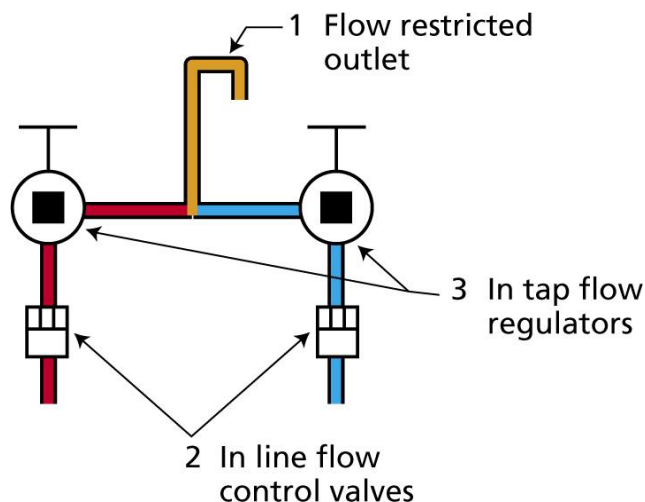

Figure 3: In line flow control valves, in-tap flow regulators or restricted outlets
- A tap set incorporating hot and cold taps with a common outlet, refer to Figure 3;